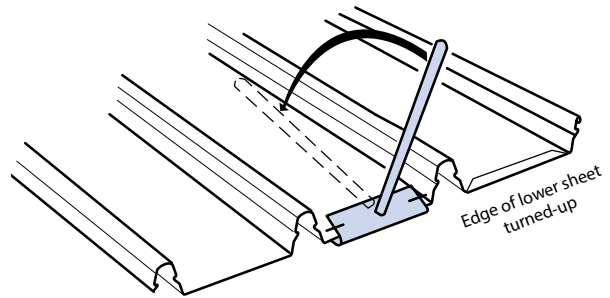

Figure 7: Turn-up of lower sheet of KLIP-LOK® 700 at LOK-KLIP™ end joint.
- Hold the tool hard against the end of the tray and pull the handle until the lipped edge bottoms out on the underside of the pan, resulting in a nominal 20° degrees lip (Figure 7)